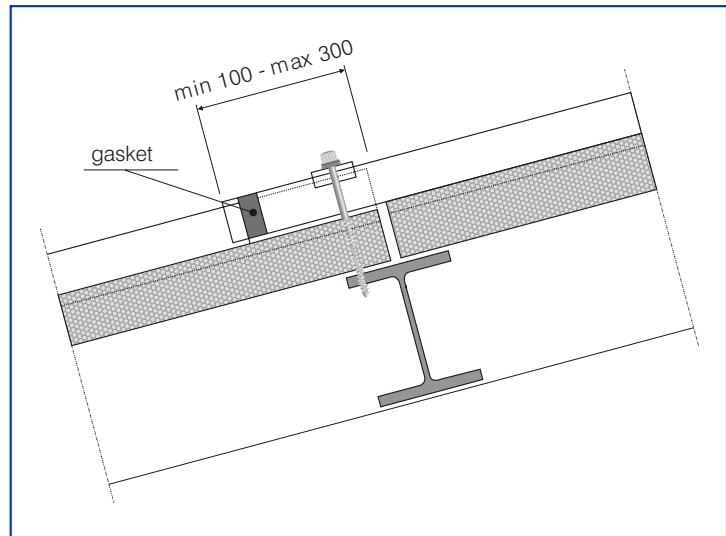

Fig. 19
- 4.1.1.16 The overlap of the panels varies from a minimum of 100mm to a maximum of 300mm. The length of the overlap is determined as a function of the pitch of the roof. To improve the weather proofing of the overlap, it is advisable to insert one or two strips of sealing putty between the sheets downstream of the fixing (Fig.19).